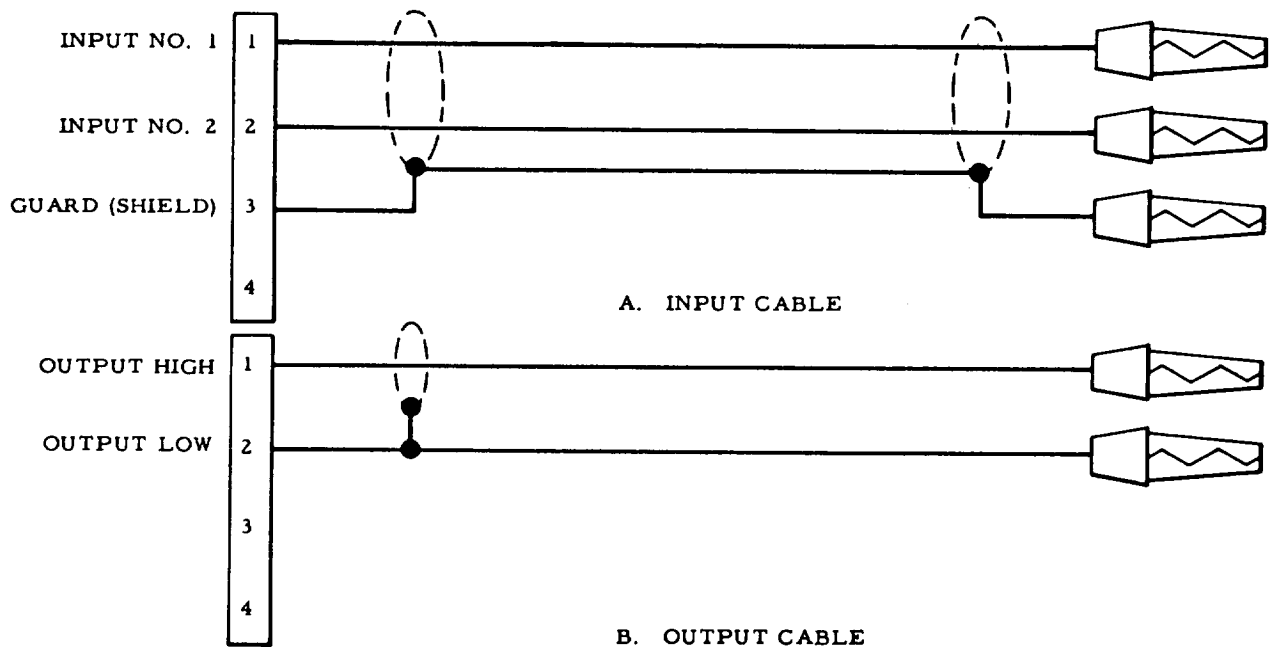

Figure 5. Input and Output Signal Cable Connections
2.4.1 Signal Cable Fabrication. Since the amplifier can be used with input and output cables ranging in length from a few feet to several thousand feet, such cables appropriate to the particular installation must be fabricated for each amplifier. Plugs that mate with the input and output signal receptacles are supplied with the equipment. Figure 5 shows the plug connections required for the input and output cables.